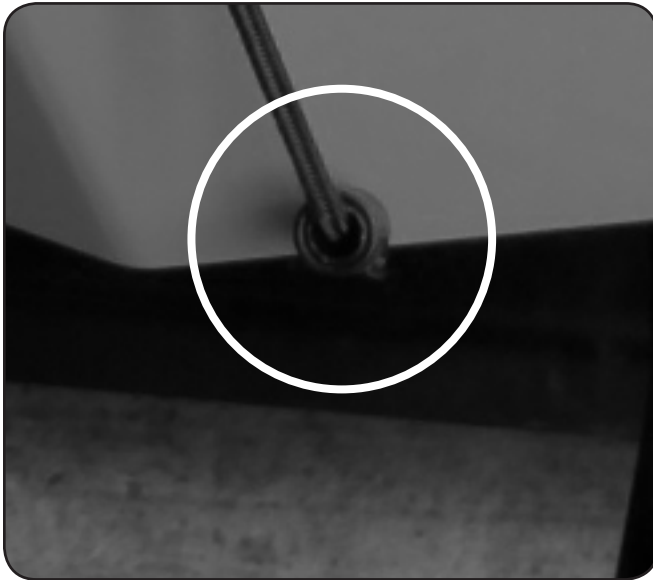

Figure 3-14
- A bungee strap runs over the front of the hood. This strap is used to tighten the snow cab around the hood and prevent snow from entering the cab. The hooks of the strap are hooked onto the hood near the front wheels. See Figure 3-14.